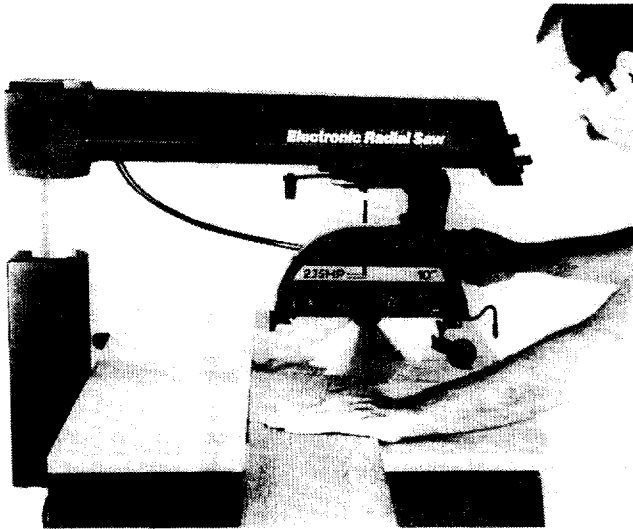

Fig. 124 - Distance Needed to Complete Crosscut
13. Pull blade through fence and workpiece just enough to complete the cut. (Figure 124)